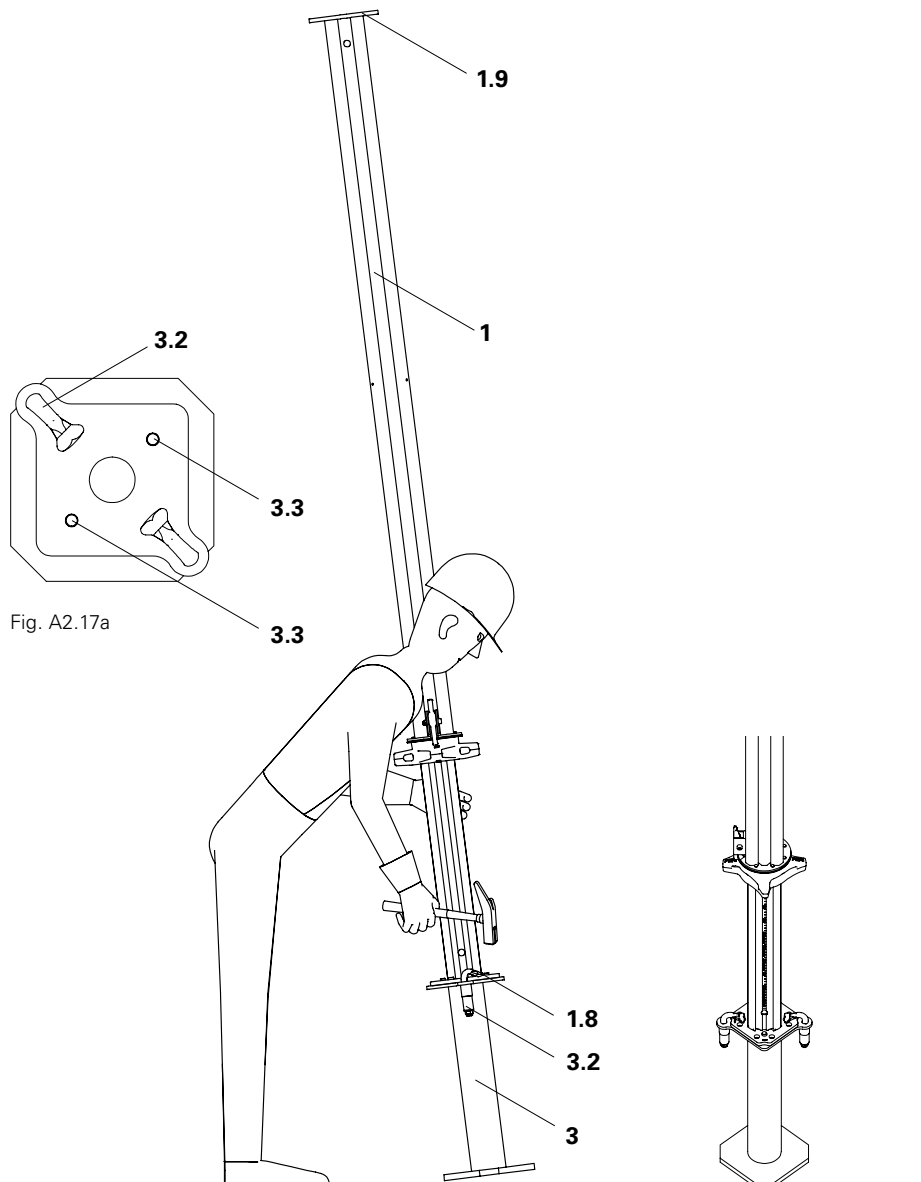

Fig. A2.17b
3. Secure clamping claws (3.2) with a hammer over the base plate or head plate. (Fig. A2.17b) Base MP 50 is connected to the slab prop.